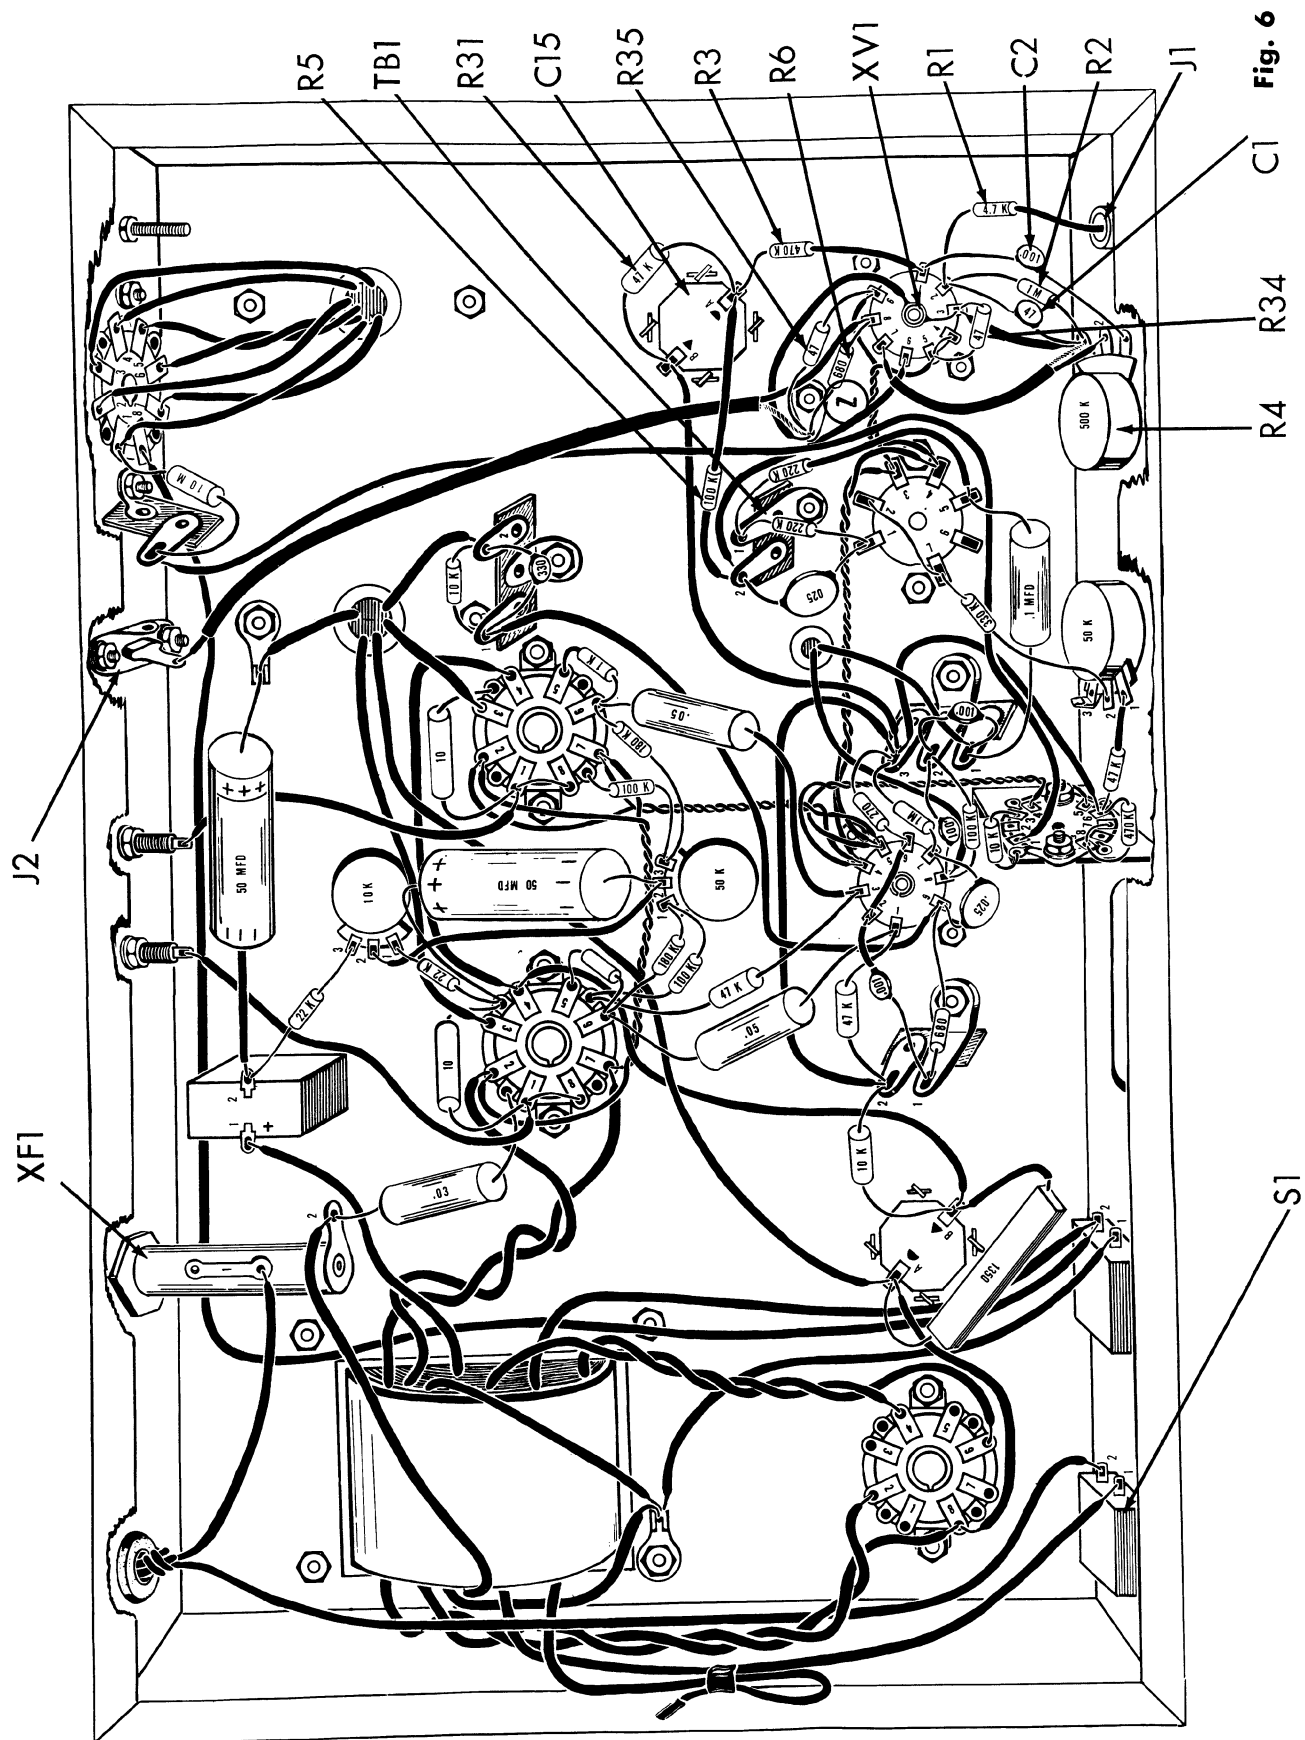

Fig. 6
1. () Fig. 6. Connect a 3" piece of black wire from the center pin of XV1, XV1-10 (C) to ground lug "Z" (C).
2. () Fig. 6. Connect a 3/4" piece of bare wire from the center pin of XV1, XV1-10 (S2) to XV1-3 (C).
3. () Fig. 6. On one end of a 6 1/2" piece of shielded cable, strip the outer insulation back 1/2". Unwrap the shield strands from around the inner conductor and twist the strands together. Cut off these shield strands. Strip the insulation from the inner conductor back 1/4" and connect to J2 (S1).
4. () Fig. 6. Cover each lead of a 100K (brown, black, yellow, silver) resistor, R5, with a 1 1/4" piece of spaghetti. Connect from TB1-2 (S3) to C15-A (C).
5. () Fig. 6. Cut one lead on a 47Ω (yellow, violet, black, silver) resistor, R35, to 3/4" and the remaining lead to 1 1/4". Connect the shorter lead to XV1-9 (S2) and the longer lead to ground lug "Z" (C).
6. () Fig. 6. Cut both leads on a 47Ω (yellow, violet, black, silver) resistor, R35, to 1/2". Connect from XV1-3 (C) to XV1-5 (C).
7. () Fig. 6. Connect a 1/2" piece of bare wire from XV1-5 (S3) to XV1-4 (S1).
8. () Fig. 6. Cut one lead on a 680Ω (blue, grey, brown, silver) resistor, R6 to 1/2" and the remaining lead to 1". Connect the shorter lead to XV1-8 (S2) and the longer lead to ground lug "Z" (S4).
9. () Fig. 6. Cut both leads on a 47K (yellow, violet, orange, silver) 1 watt resistor, R31, to 3/4". Connect from C15-A (C) to C15-B (S2).
10. () Fig. 6. Cut both leads on a 470K (yellow, violet, yellow, silver) resistor, R3, to 1". Cover one lead with a 3/4" piece of spaghetti and connect to XV1-1 (C). Connect the remaining lead to C15-A (S3).
11. () Fig. 6. Cut both leads on a 1M (brown, black, green, silver) resistor, R2, to 3/4". Connect from R4-1 (C) to XV1-2 (C).
12. () Fig. 6. Cut both leads on a 47 mμf disc capacitor, C1, to 1". Connect from R4-1 (C) to XV1-2 (C).
13. () Fig. 6. On one end of a 3 1/2" piece of shield cable, strip the outer insulation back 1/2". Unwrap the shield strands from around the inner conductor and twist the strands together. Cut off these shield strands. Strip the insulation from the inner conductor back 1/4" and connect to XV1-7 (S1).
14. () Fig. 6. Cut one lead on a 4.7K (yellow, violet, red, silver) resistor, R1, to 1 1/4". Cover this lead with a 1 1/8" piece of spaghetti. Push this lead through the hole at the center of input jack J1. Solder this lead to the inner conductor being careful not to use too much solder, to prevent the excess from flowing into the jack. Form a rounded surface with the solder over the center post of jack J2. Let the solder cool without moving the resistor to prevent making a cold solder connection. Cut the other end of the resistor to 3/4" and connect to XV1-2 (S3).
15. () Fig. 6. Cut both leads on a .001 mfd (1K or 1000 mμf) disc capacitor, C2, to 1 1/4". Cover one lead with a 1" piece of spaghetti and connect to XV1-1 (S2). Connect the other lead to R4-3 (S1).
16. () Fig. 6. Push the line cord through the grommet at the rear of the chassis, and make a knot in the line cord 8" from the solder end of the cord, inside the chassis. Separate the two leads. Connect one lead to S1-2 (S1). Cut the remaining lead to 4", and connect to XF1-1 (S1).
17. () Fig. 6. Connect a 2" piece of black wire from XV1-3 (S3) to R4-1 (S4).